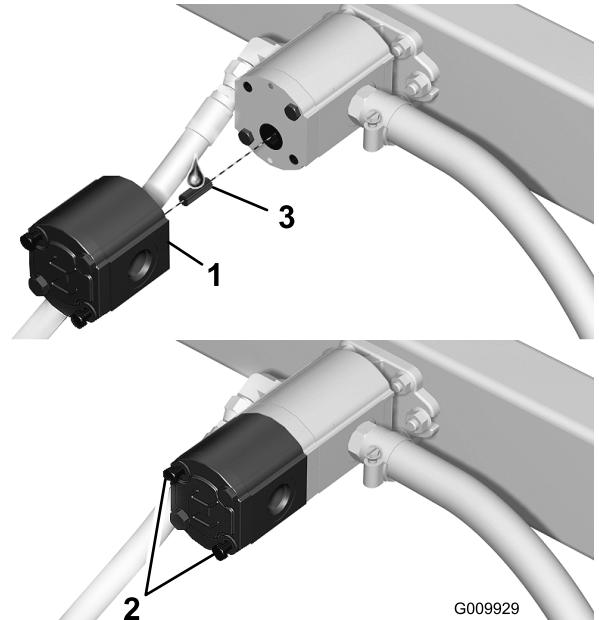

Figure 6
4. Using the 2 long bolts, assemble the high-flow pump onto the existing pump (Figure 6).